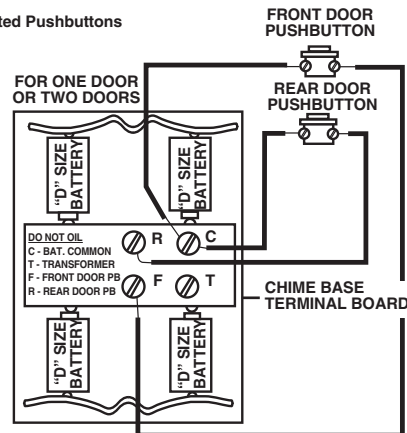

FIGURE 3
3. Run wires as shown in Figure 3 for installation using batteries.
Refer to Figure 3. Connect pushbutton wires to terminal screws marked Front, Common, and Rear.